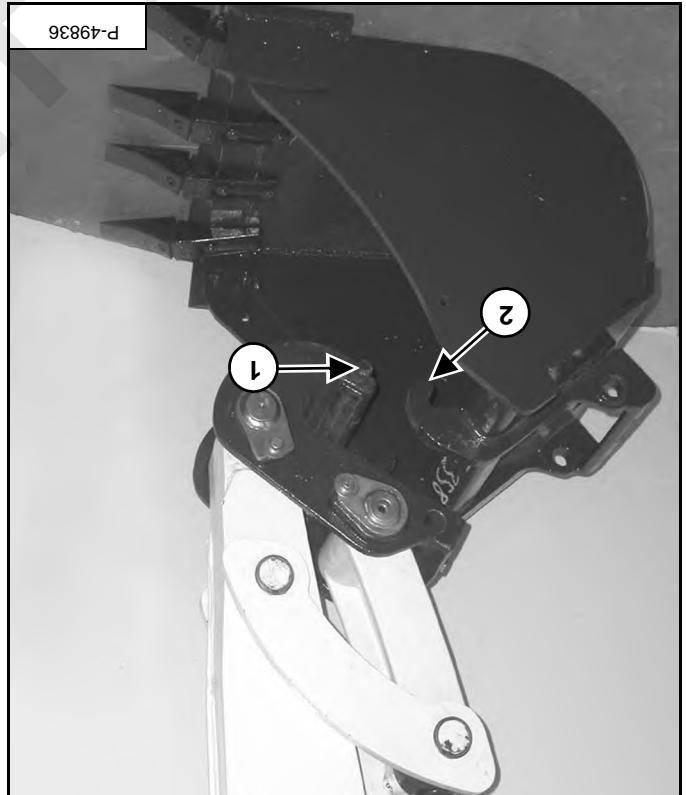

Figure 129
(Item 2) [Figure 129].
Fully retract the bucket cylinder and lower the boom and arm until the attachment pins (item 1) are disengaged from the hooks (item 2) [Figure 129].